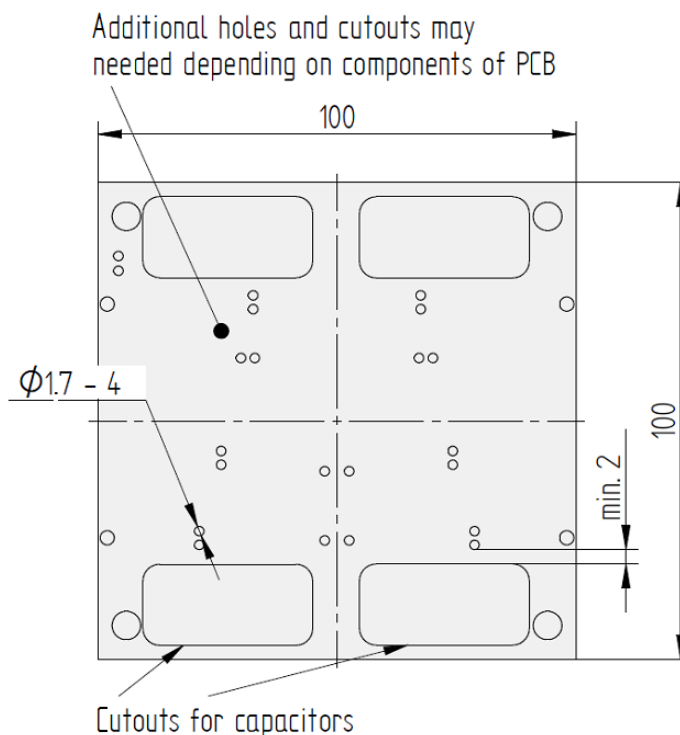

Figure 14: Recommended dimensions for the press-in tool
- The recommended diameter of holes/ cutouts for the pins is 1.7 mm to 4 mm, depending on positioning accuracy, as shown on Figure 14. Allow for at least 2 mm supporting space around the pin (Figure 14). An elongated cutout for several pins may be made if the pins are close together. The PCB and module must also be positioned. The size and position of holes and cutouts will be determined by the components on the PCB. Cutouts for pins are to be 6 mm deep.